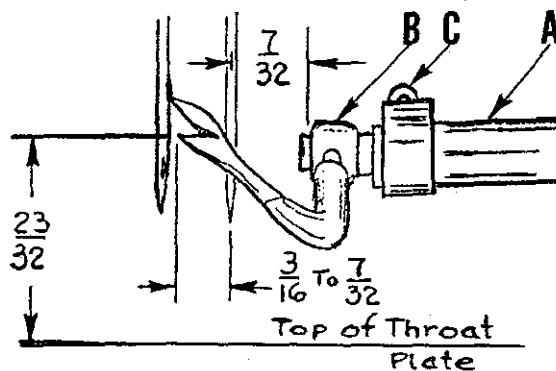

Fig. 6
If spreader gauge is not available to set the spreader, turn the handwheel in the operating direction until the spreader bar (A, Fig. 6) is in the extreme left position. Set the spreader holder (B) in the spreader bar so the left end of the holder is $\frac{7}{32}$ inch to the right of the center of the right hand needle (Fig. 6), and tighten collar screw (C). Looper gauge 21225- $\frac{7}{32}$ can be used for this setting. DO NOT CHANGE THIS LATERAL SETTING OF THE HOLDER.
With the spreader in this position, rotate the spreader about its shank so the point closest to the operator is between $3/16$ and $7/32$ inch to the left of the center of the needle and approximately $23/32$ inch above the throat plate (Fig. 6). Turn the handwheel in the operating direction and check clearance between the bottom point of the spreader and the lower looper. The spreader point should cross the top of the looper to the left as close as possible to the eye and to the back of the looper without touching it.